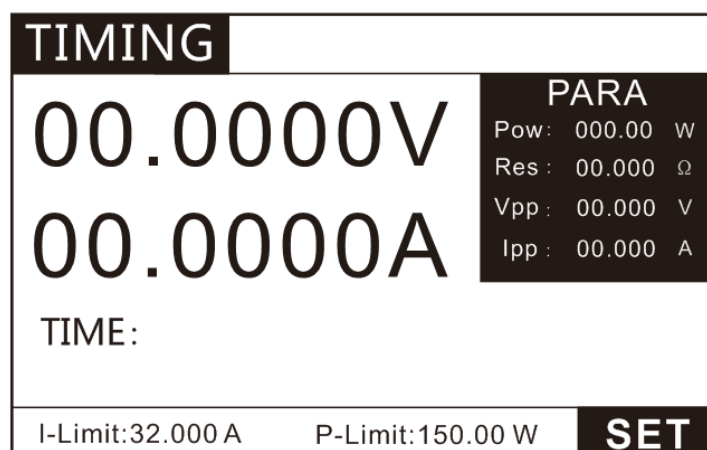
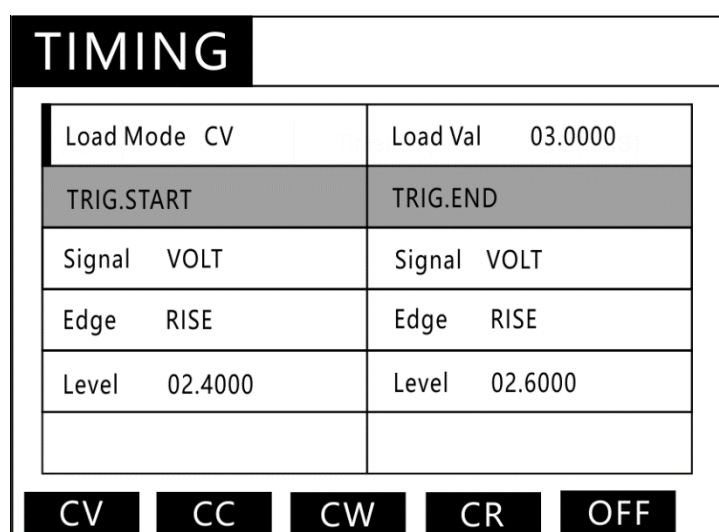

Figure 3.30 TIMING mode test Page
Figure 3.31 TIMING mode setting interface
1. Press the key **MODE** to enter the mode selection page, press the up and down keys to select TIMING, and press the key **ENTER** to enter the TIMING test interface diagram shown in Figure 3.30.
2. As shown in Figure 3.30, in the TIMING interface, press the key **SET** to enter the setting interface shown in Figure 3.31.
3. Set the load parameters according to the values shown in Figure 3.31. the waiting time is from the load detection to the rising edge of 2.4V to the load detection to the rising edge of 21.6V, is equal to the climb time of the power supply. The minimum detection time is 100uS.